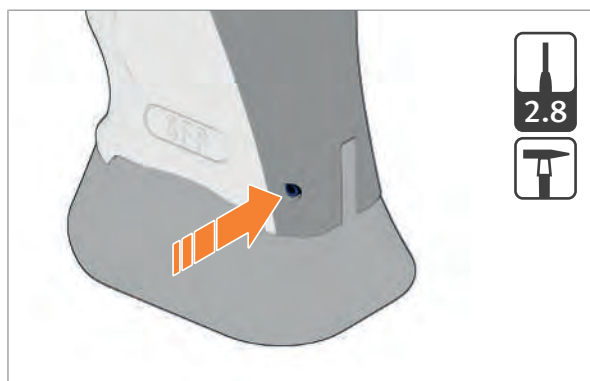

Fig. 22: Drive out clamping sleeve for back strap
1. Extract clamping sleeve for back strap using pin punch (Fig. 22) .